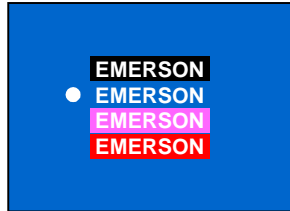

Figure 7-14 COLOR screen
2) Select '2 COLOR' and press the ENTER button to enter the COLOR screen, as shown in Figure 7-14.